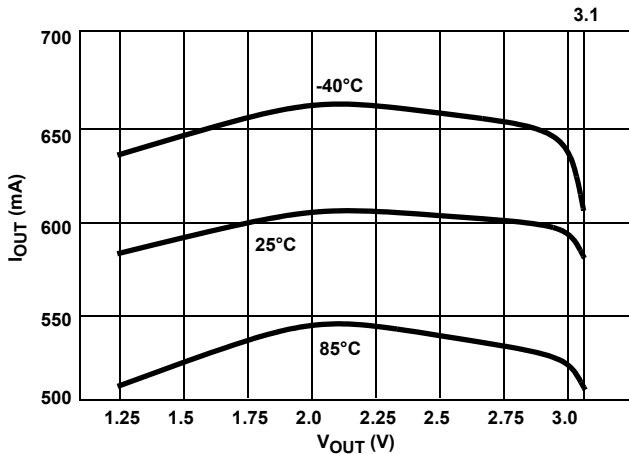

FIGURE 4. CURRENT REGULATION vs  $V_{OUT}$  ( $V_{IN} = 3.3V$ )
The ISL6118 has integrated current sensing on the power MOSFETs that allows for rapid control of OC events. Once an OC condition is detected the ISL6118 goes into its current regulation (CR) control mode. The ISL6118 CR level is set to a nominal 0.6A and is regulated to within  $\pm 25\%$  over full temperature, bias voltage range and OC magnitude. The speed of this control is proportional to the level of OC. Thus a hard OC is more quickly controlled than a marginal condition. See Figures 4 through 7 for current regulation performance curves and waveforms.